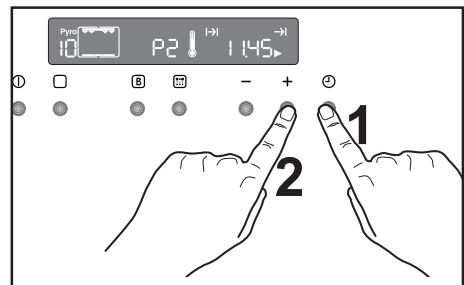

Fig. 24
-  (Fig. 24). The end of cooking symbol  and the arrow symbol  will flash.
Push '-' or '+' buttons to select the required end of cycle time (Fig. 24). After a few seconds, the "Pyro" message and the symbol  will stop flashing, the acoustic signal will stop while the cooking duration symbol  will flash until the pyrolytic cleaning cycle start.